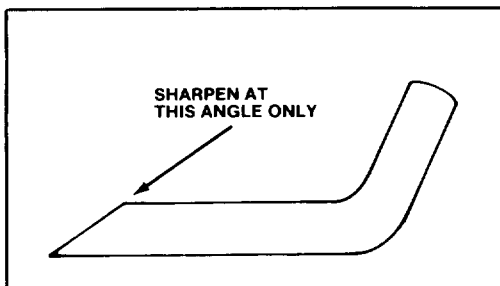

Figure 15
**5. SHARPENING BLADE** — Using a file, sharpen top side of blade and maintain original cutting angle (Fig. 15). The blade will remain balanced if same amount of material is removed from both cutting edges.